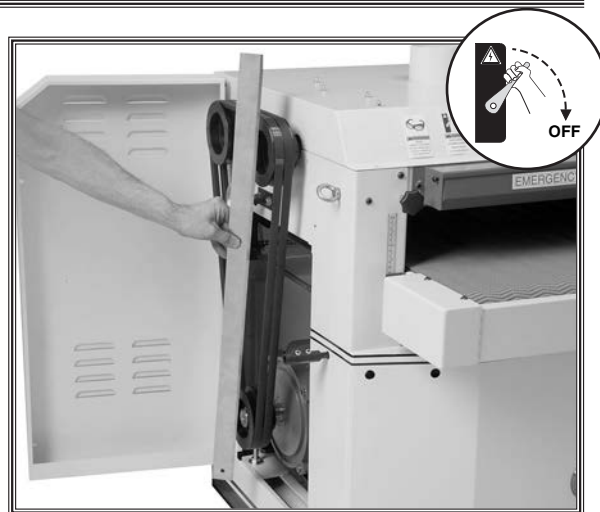

Figure 41. Checking pulley alignment with a straightedge.
3. Place a straightedge across the face of the motor pulley and the front drum pulley to check the alignment. The straightedge should sit evenly on the top and bottom part of both pulleys, as shown in **Figure 41**.